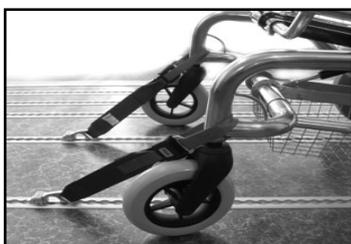
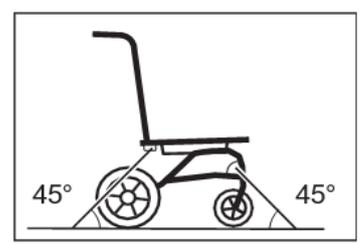

Figure 14
Figure 16
- Attach the restraining straps to the NEO Wheelbase frame (see figures 11 & 13 above) as pictured below (see figures 14 & 15). The straps should typically form an angle of 45 degrees with the floor (see figure 16).